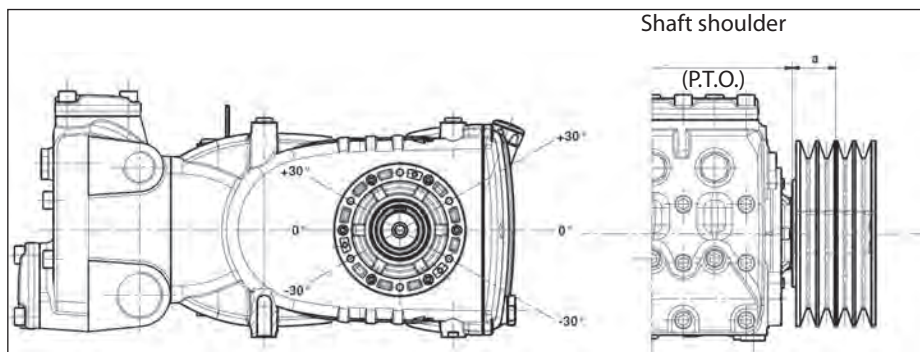

Fig. 11
The radial load on the shaft must not exceed 7500 N (value necessary for Layout definition). The transmission is considered adequate if the load is applied to a maximum distance $a=40$ mm from the shaft shoulder (P.T.O) as shown in Fig. 11.
- b) Use high performance belts – for example **XPB** instead of **SPB** – as a lower quantity of belts for the same transmitted power may be necessary and a consequent shorter resulting distance compared to the shaft shoulder (P.T.O) "a" of Fig. 11.
- e) Follow the direction of the belt pull as shown in Fig. 11 for other needs, contact our **Technical** or **Customer Service Departments**.